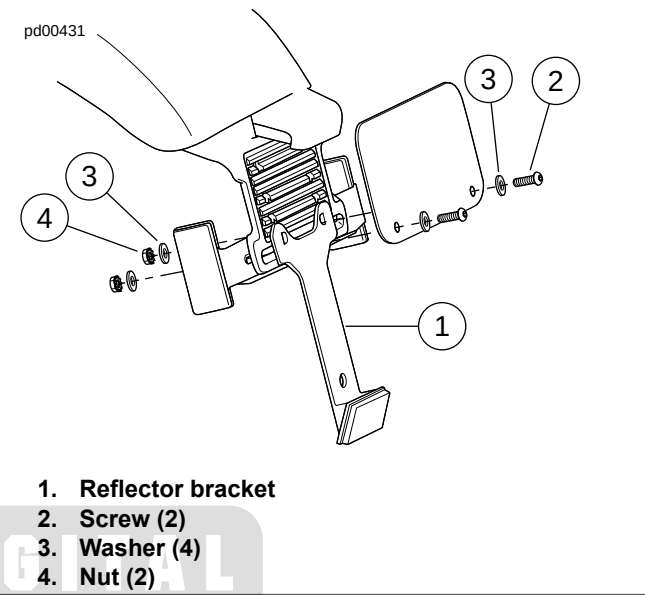

Figure 2-218. License Plate Bracket: XL 883N (India) (shown)
1. See Figure 2-218. Move the reflector bracket (1) to the lowest mounting holes.
2. Assemble the screws (2), washers (3), license plate and nuts (4) to the license plate bracket.